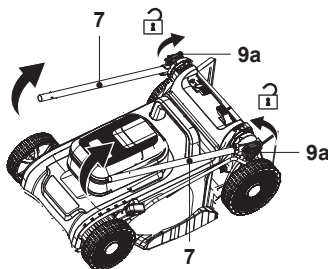

Fig. 1
2. Loosen the locking knob (9a) counterclockwise, but do not remove it, then unfold the lower handle bar (7) (Fig. 1, steps 1, 2)